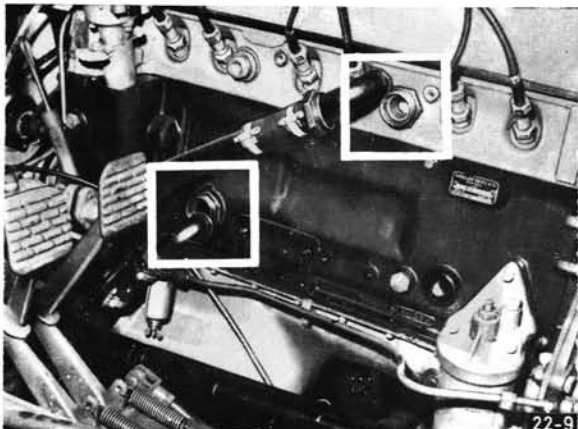

Fig. 50-7/6
12. Attach water container with clamps to bottom radiator attachment. Fig. 50-7/4.